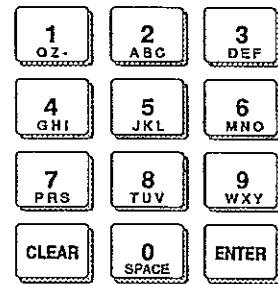

FIGURE 5: ALPHANUMERIC POSITION OF THE KEYPAD
2. To enter letters, press one of the auxiliary keys (A, B, or C) followed by the corresponding number as shown in Figure 5. You are automatically advanced to the next cursor position for another entry.
To change the user name, enter up to 13 characters maximum. Refer to Figure 5 for entering letters.